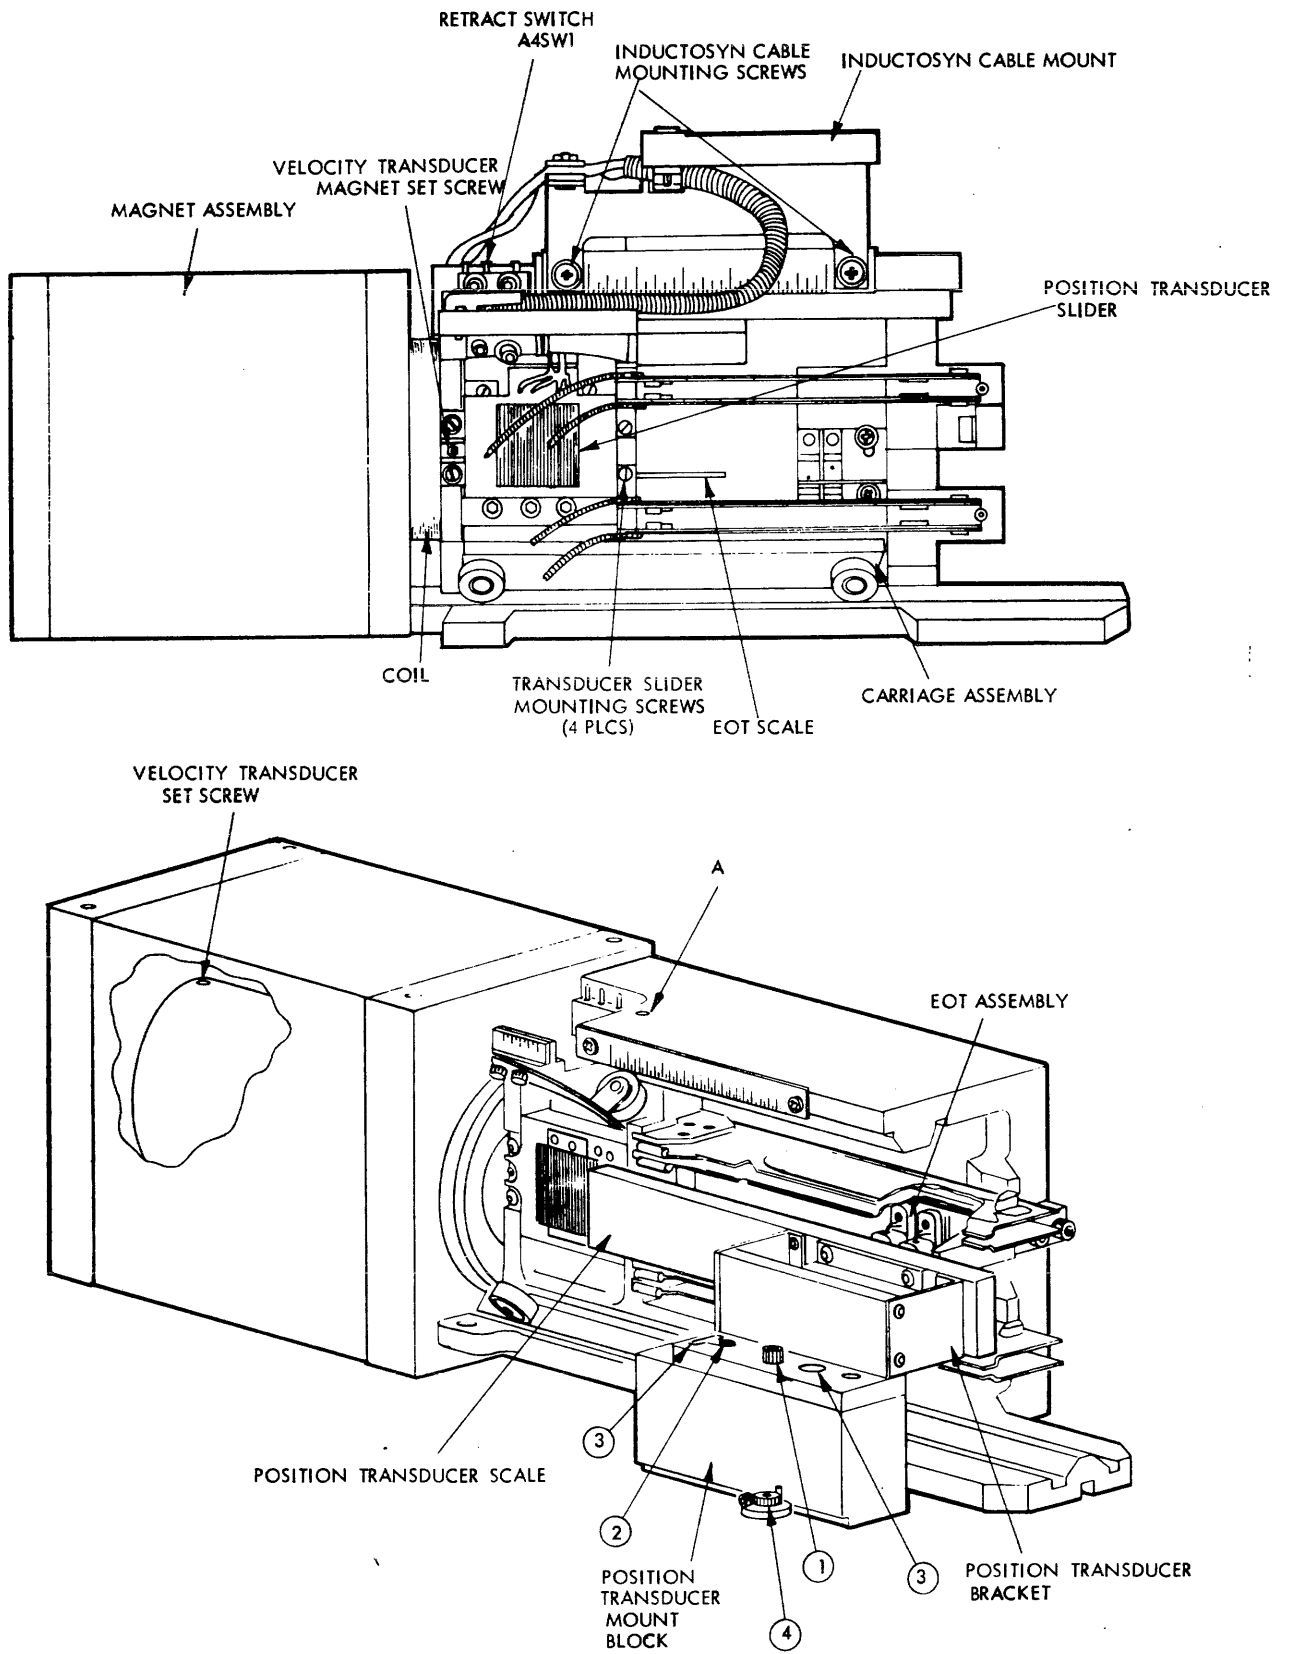

Figure 3-18. Actuator Assembly
8. If waveform is not within the tolerances stated in step 7, loosen transducer mount block forward-most screw (figure 3-18, item 3), and adjust cam (figure 3-18, item 4) for proper amplitude. If this adjustment is not sufficient, loosen transducer scale mounting screw (figure 3-18, item 1). It may be necessary to make sequential adjustments of the cam and eccentric screw to obtain proper amplitude tolerances.
9. Tighten transducer scale mounting screw (figure 3-18, item 1) to 20 in/lb.